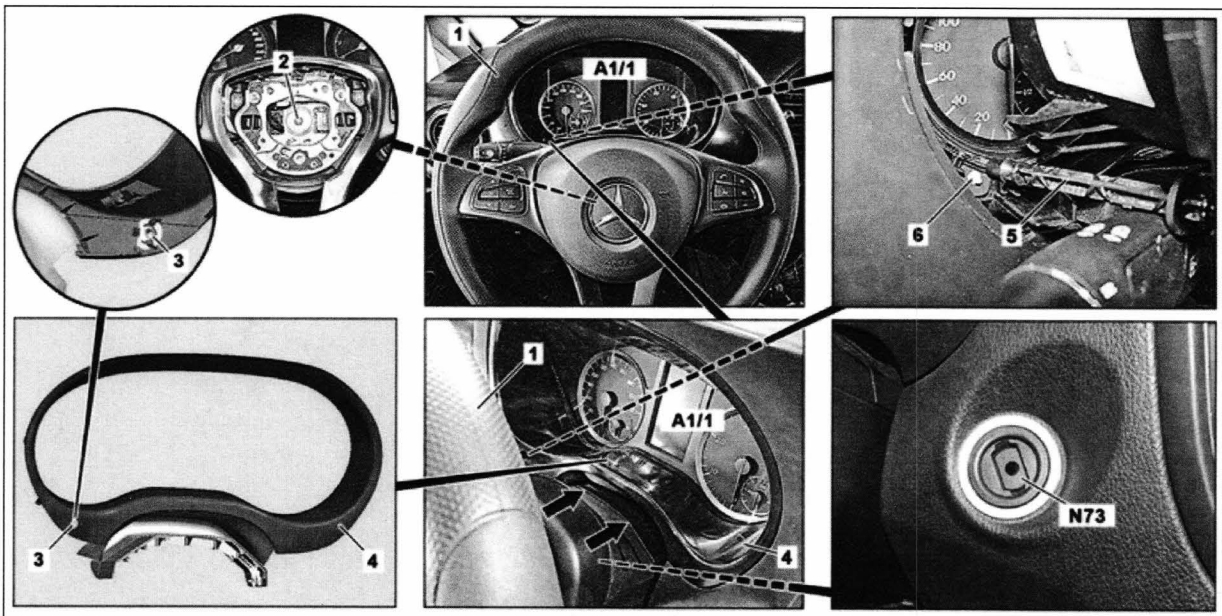

Figure 1
1.  Replace steering wheel (1, Figure 1), refer to WIS: AR46.10-S-0100E.
2. Perform commissioning of instrument cluster (IC) control module (A1/1) using XENTRY Diagnostics: Control units view ➡ A1/1 -Instrument cluster (IC) ➡ Adaptations ➡ Commissioning ➡ Control unit replacement with commissioning of new control unit.
3.  Replace instrument cluster (IC) control module (A1/1), refer to WIS: AR54.30-S-6015EE.
The adjustment shaft extension (5, Figure 1) is retrofitted. To attach the adjustment shaft extension (5) to the instrument lighting adjustment shaft (6), the cover (3) on the trim (4) must be removed.